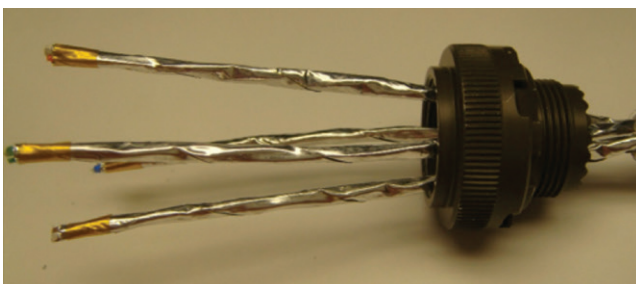

Figure 50: Positioning the grommet near the braid
10. Slide the connector grommet toward the braid as close as possible (Figure 50).